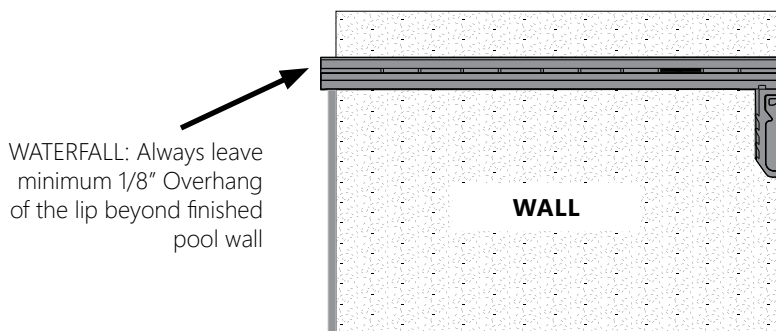

Figure 5: Overhang Lip 1/8"
- The waterfall must be installed with a minimum of 1/8" overhang from the finished surface (Figure 5). Mortar or thinset should be used to secure the waterfall in place.